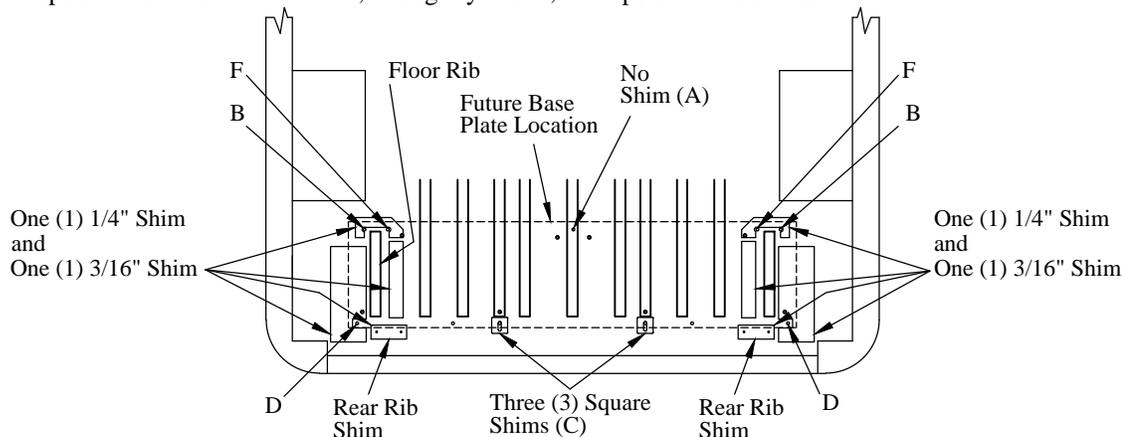

Figure 8: Rib shim locations (top view).
1. **Position** three (3) square shims at each "C" location (Figure 8)
2. **Position** the supplied rib shims next to the ribs of the metal van floor (Figure 8). Be sure to match one (1) 1/4" and one (1) 3/16" shim at each location.